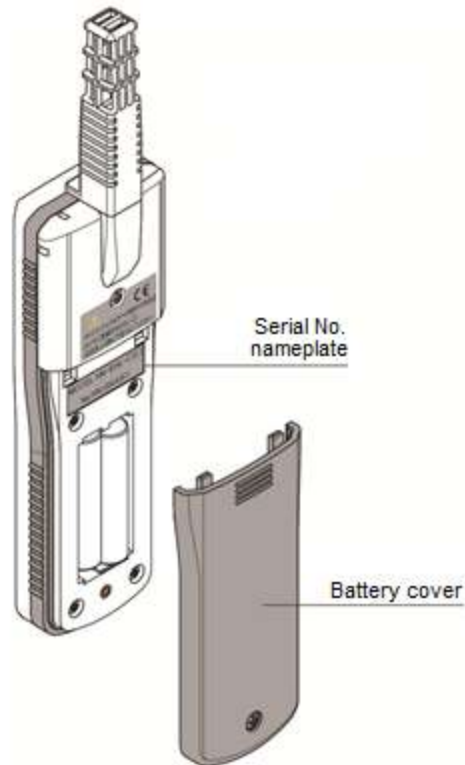

Figure 2
- Remove the battery cover, there is a serial No. nameplate on the body. Refer to "Model code" and "Serial No." on it if it is necessary to confirm. (Refer to Figure 2)